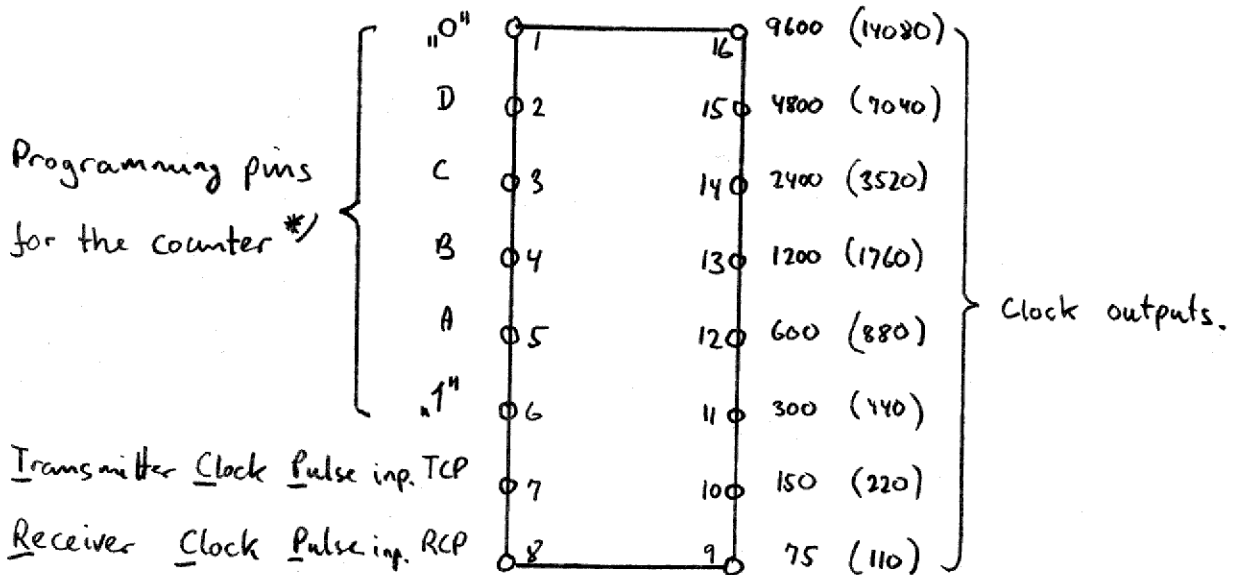

fig. 4
3.2 Baud-rate strapping. By means of a dual-in-line socket near the top connector of the module, a baud rate between 75 bits/sec. and 9600 bits/sec. can be selected for the serial data transmission. Two straps determine the modulus of a programmable counter to obtain the two basic baud ranges of 75bits/sec. or 110 bits/sec. Two more straps are used to connect the appropriate outputs from the counter to the clock inputs for the UAR/T chip (TCP and RCP). Fig. 4 shows the connections to the socket: